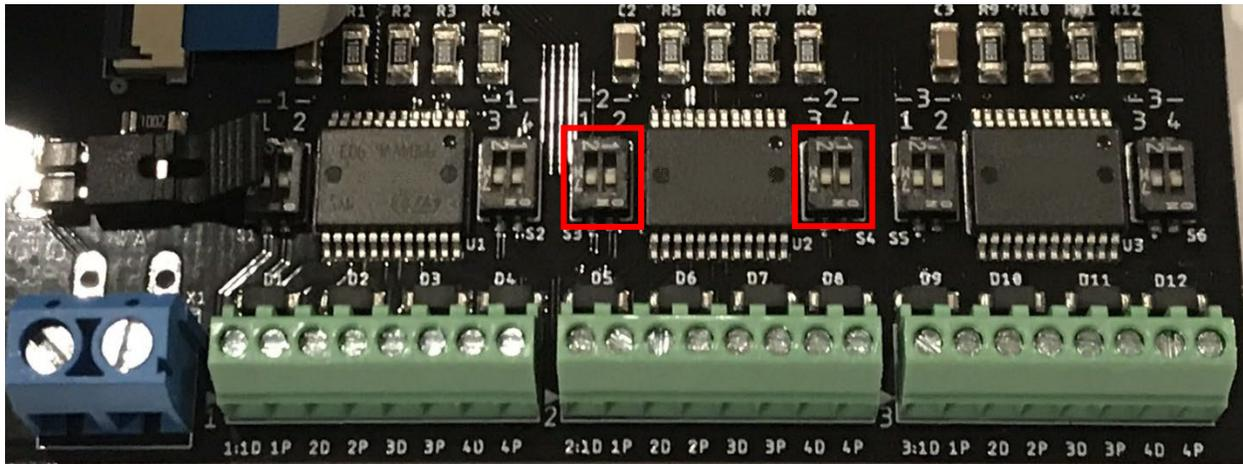

Figure 3: Terminal 2 with Driver Connect Switches for 1, 2, 3, and 4 pins
4. The Base board slide switches are now fully exposed and may be changed. Use a small flat blade screwdriver to gently change any particular I/O pin-driver connection switch (see Figure 3).